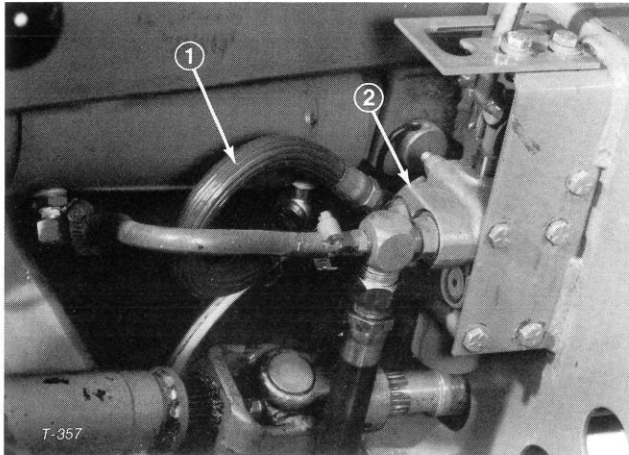

Figure 79
5. Disconnect cylinder hose from 90° fitting on lift valve (Fig. 79). Keep end of hose higher than cylinder to prevent oil from draining out the hose. Plug end of the hose.